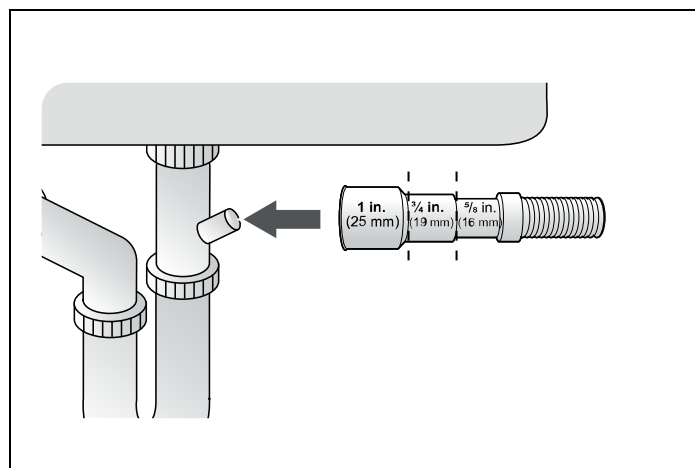

Fig. 18
3) Check the size of the sink drain hose connector. If needed, cut the drain hose so its end fits onto the sink connector (5/8", 3/4". or 1". - as shown in Fig. 18). If the end of the drain hose does not fit onto the drain hose connector of the sink, use an adapter purchasable at a plumbing/hardware supply store.